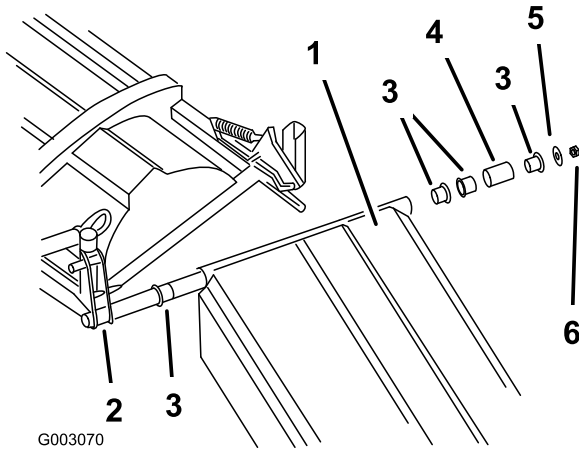

Figure 7
- Install the left and right boom to the center boom as shown in Figure 7